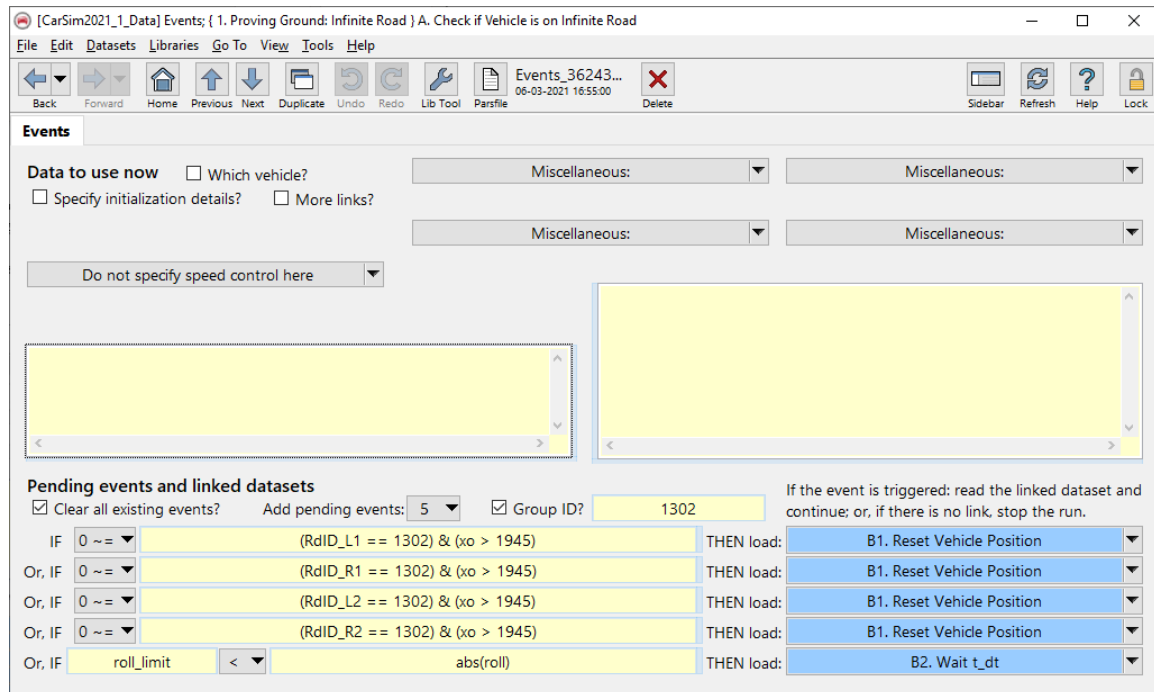
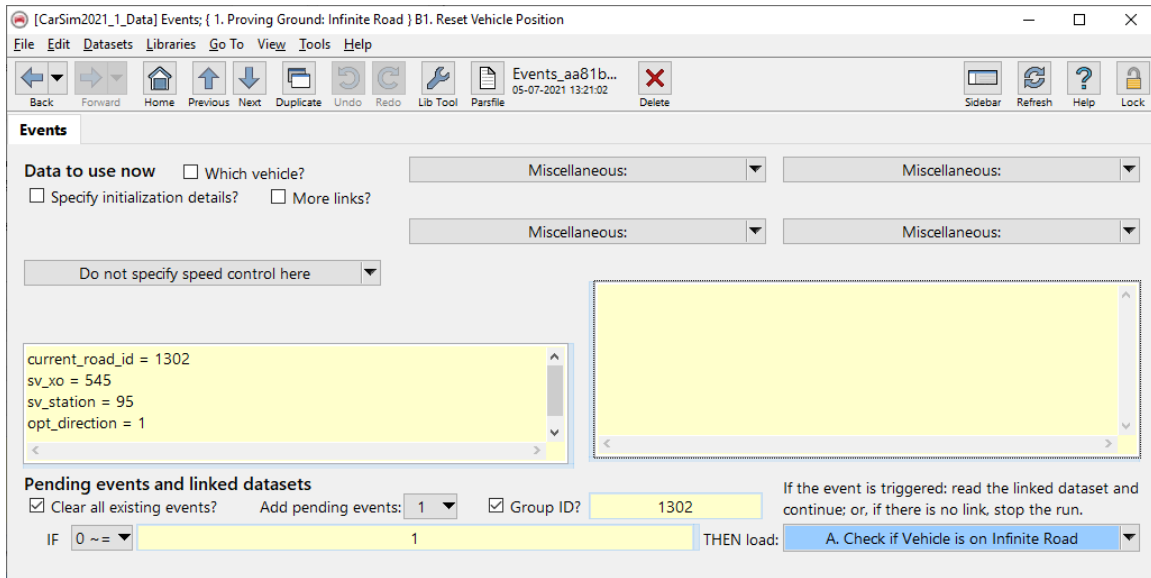

Figure 29. Event used to check vehicle position on Infinite Road.
Figure 30. Event used to reset vehicle to the start of the Infinite Road.
2. The first Event series (Figure 29 and Figure 30) is part of the Infinite Road: when the vehicle reaches the end of the road, its position is reset to the beginning (e.g. the vehicle's Sprung Mass Coordinate System Origin global position $X_o = 1945$ m) while the vehicle remains in motion. This Event series is only in effect when the vehicle is on the Infinite Road, indicated by crossing the boundary from the VDA South road to the Infinite Road.